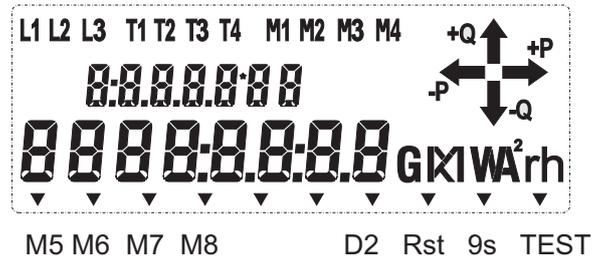

Fig. 1
- Display: LCD custom design 80x30 mm according to figure 1;
According to figure 1, the LCD displays the following:
- the programmed demand which is calculated as per programming (M1, M2, M3, M4, M5, M6, M7, M8, according to figure 1);